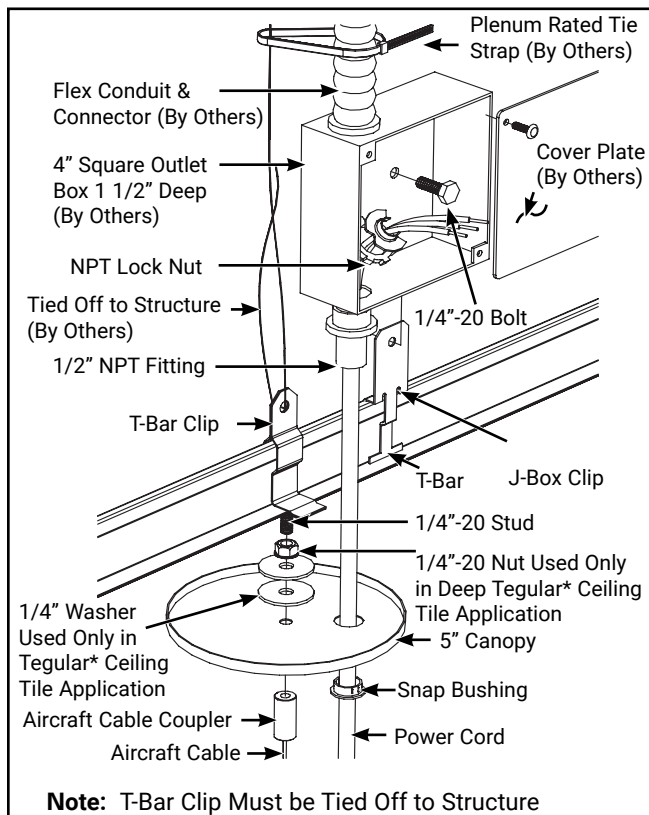

Figure 8. Power
1. Layout mounting locations. (Figure 8.)